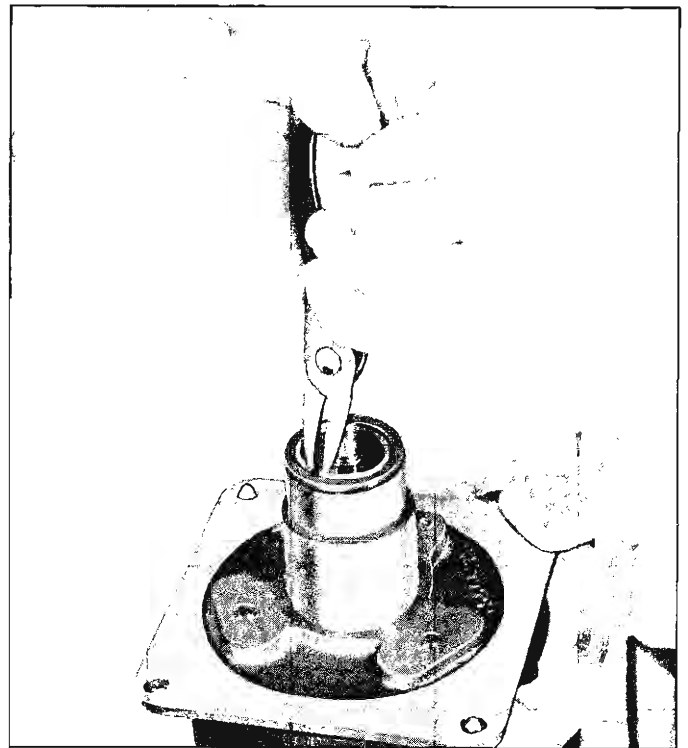

Fig. 22—Removing Seal Seat Retaining Snap Ring
2. Remove the seal seat retaining ring using snap ring pliers J-5403 (fig. 22).